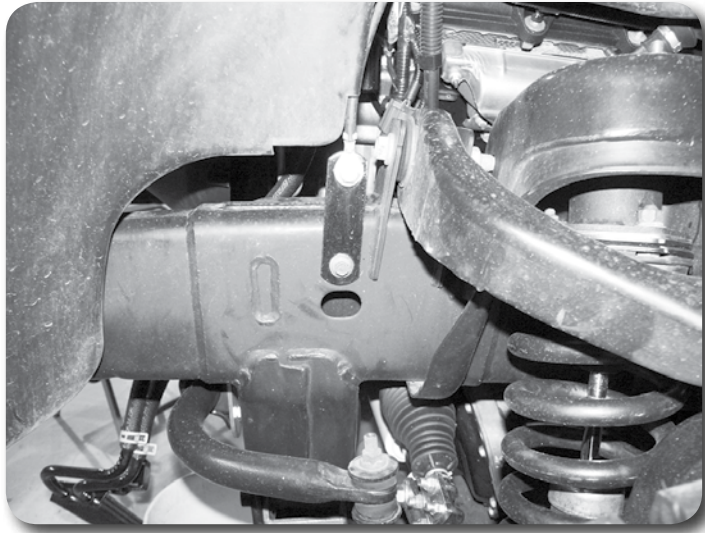

Figure 11
30. Attach the provided ground strap extension to the original ground strap location on the driver's side frame with the factory bolt **Figure 11**. Position the strap so it is pointing straight up and torque bolt to 15 ft-lbs.